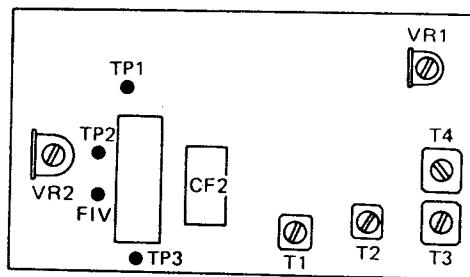

Fig. 20 FM-IF unit
- 2) Change the SSG output signal, making it exhibit a frequency deviation of 1 kHz or 5 kHz. Adjust T3 and T4 (Fig. 20) to obtain the best possible waveform display and to maximize the FM output in each case of frequency deviation.